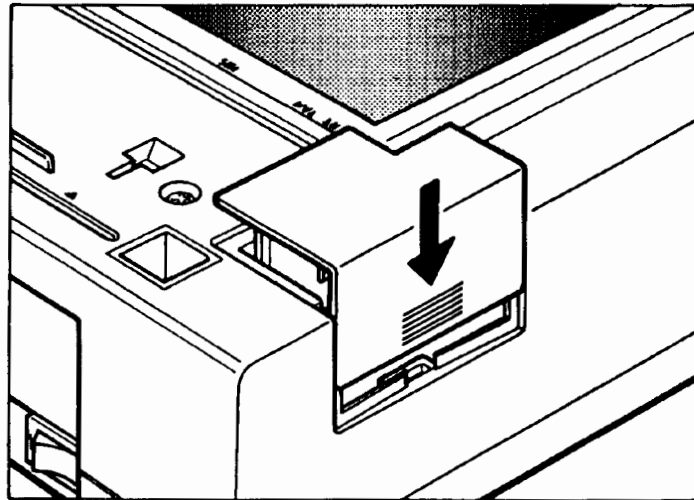

Figure C-17. Replacing the Lamp Cover
16. Replace the lamp cover. See figure C-17.